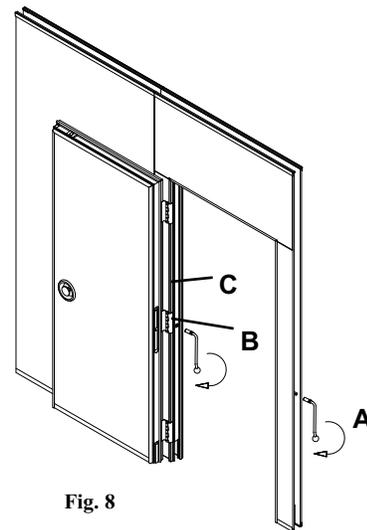

Fig. 8
**U-Shaped (single style), Fig. 8:** The pass door has two seals. One located in the same place as the basic panels (A) and the other located inside the door jamb (B). Set the (A) seal first by inserting the operating key over the seal mechanism as shown in Fig. 8, A. Turn the operating key until the floor seal is extended. This may take more than one turn. Next open the door and turn the seal mechanism located in the jamb (B) in the same way as you did for seal (A).
The pass door has a retractable bottom seal. To extend the door seal, locate the built-in handle in the door frame (C) shown in Fig. 8. Release the door seal by lifting on the bottom of the handle and then pulling it towards you. Next, pull the handle down towards the floor to the desired location. Pivot the handle back into the door jamb to lock the seal into position. Push the bottom of the handle back into the jamb. Be certain to return the handle to its correct stored position or it may interfere with, or damage, the door frame.